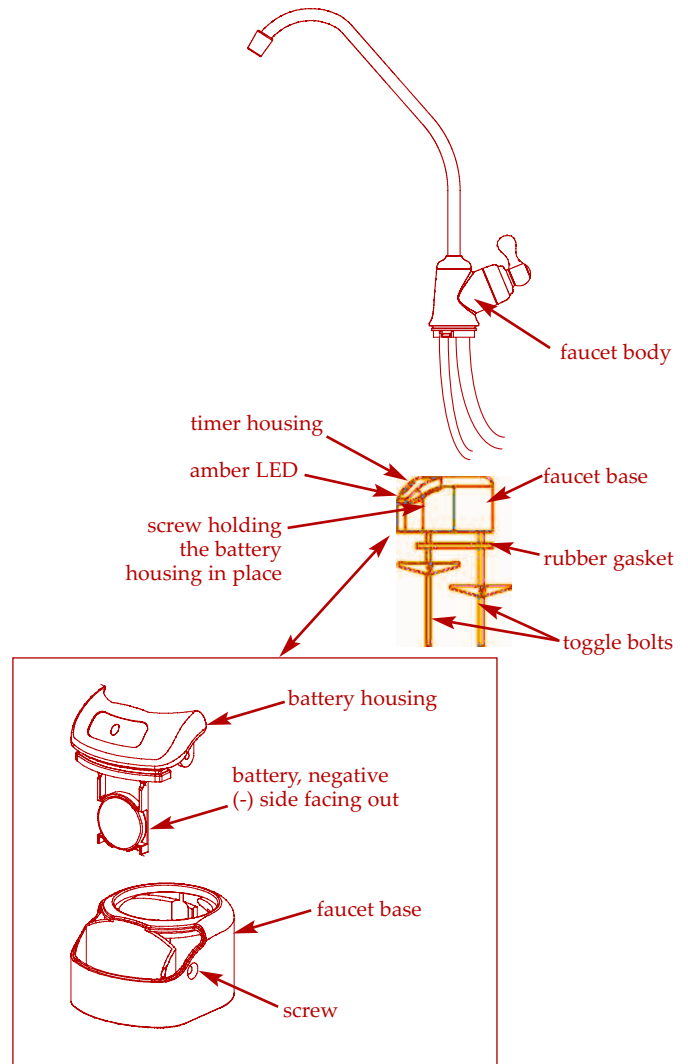

Figure 14
1. Locate and organize your RO faucet install parts. Refer to Figure 14.
Inside the faucet base is a battery operated 6 month timer. See Figure 14.
1. Loosen the screw on the right side of the faucet base. See Figure 14.
2. Press the battery housing upwards from the front faucet base until it releases from the faucet base. See Figure 14.
5. Re-install the timer housing and firmly tighten the mounting screw. See Figure 14.
Faucet Electronics: Inside the faucet base is a battery operated 6 month timer. See Figure 14. An amber LED indicator is also located in the front of the faucet base. This LED will flash continuously after 6 months have passed. This indicates that it is time to replace the battery, prefilter and postfilter.